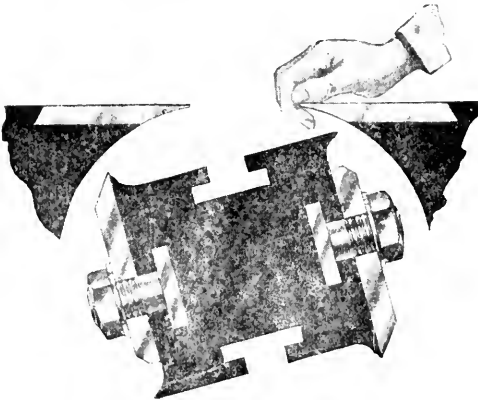
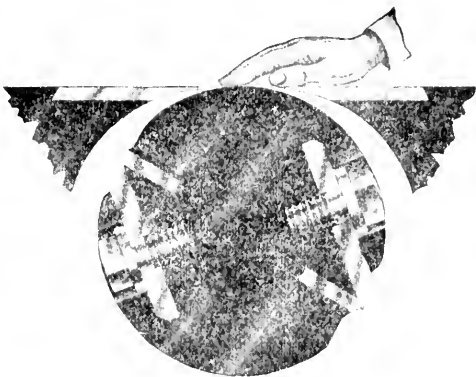

FIG. 4.- SQUARE HEAD.
FIG. 5—SAFETY HEAD
7. **THE HEAD--** Formely all jointers were equipped with square heads, illustrated in Fig. 4, but these are so much more dangerous to the operator because of the fact that in case of accident one is apt to have an entire hand or at least most of the fingers of the hand drawn into the machine. This can be verified by comparing the larger opening, Fig. 4 with that of the circular head, Fig. 5. While it is still dangerous to the operator to get his fingers in the machine,
2. Use a guard at all times, except when dadoing. Good types are shown in Figs. 5 and 6.